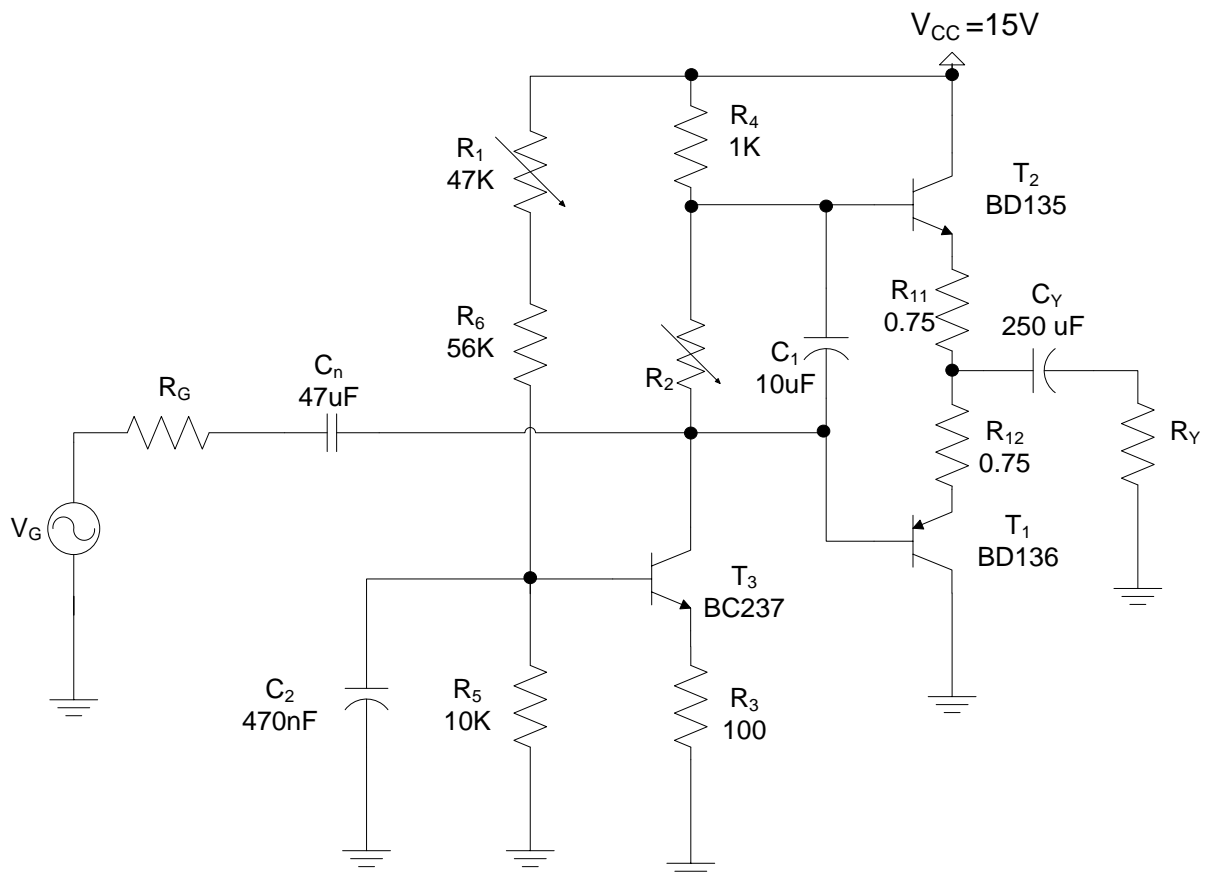

Figure 8. Class B and AB power amplifier circuit.
- Calculate  $R_1$  and  $R_2$  in Figure 8 with assuming the circuit operates at Class B condition and the output voltage swing is symmetrical (the output is biased at 7.5V). (Transistor parameters are  $\beta_F=250$  and  $V_{BE}=0.6V$ ).
The circuit in Figure 8 should be setted up with applying a 1 kHz sinusoidal input voltage ( $V_G$ ).